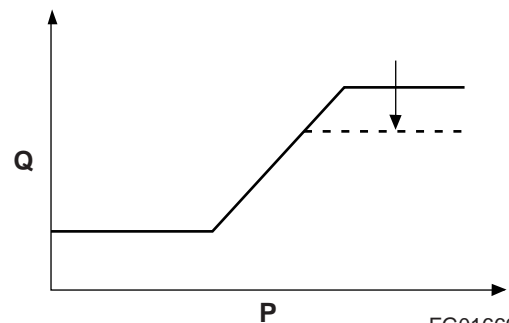

Figure 15
The adjusting screw (1, Figure 12) affects the delivery rate (Q) of the pump. Tightening the adjusting screw decreases the maximum cut flow (as shown in Figure 15) while backing out the screw increases cut flow delivery rate.